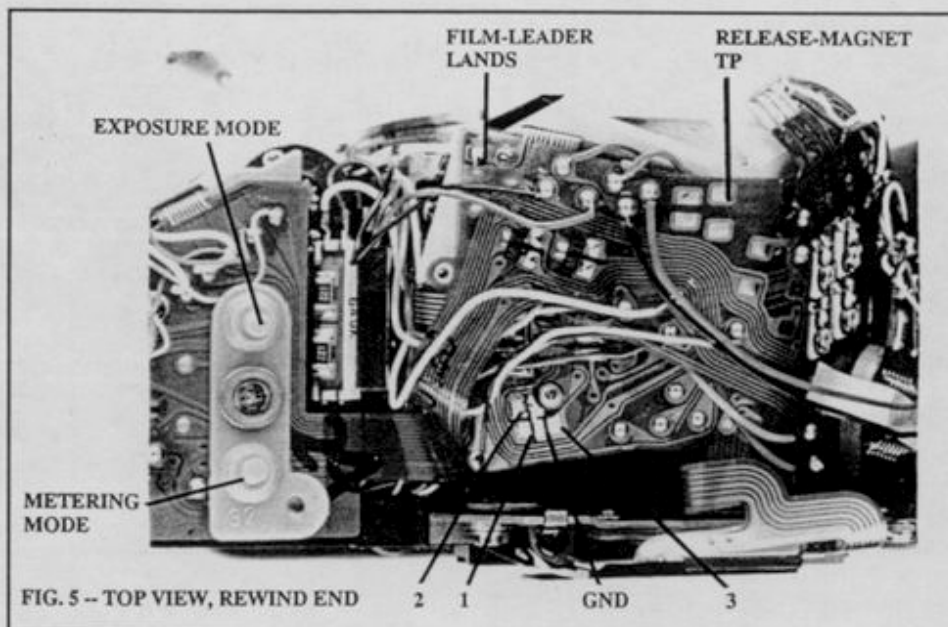

FIG. 5 -- TOP VIEW, REWIND END
- Fig. 5 -- top view, rewind end
c. Adjust by bridging one or more of the aperture-adjust lands, Fig. 5, to the ground land (solder bridge), as follows:
SW5. Exposure-mode switch, top rewind end (toward front of camera, Fig. 5). Closing SW5 connects IC3 pin 8 to ground. The external LCD displays the exposure mode. Hold SW5 closed and turn the dial switch to change the exposure mode.
SW6. Metering-mode switch, top rewind end (toward back of camera, Fig. 5). Closing SW6 connects IC3 pin 9 to ground. The external LCD displays the metering mode. Hold SW6 closed and turn the dial switch to change the metering mode.